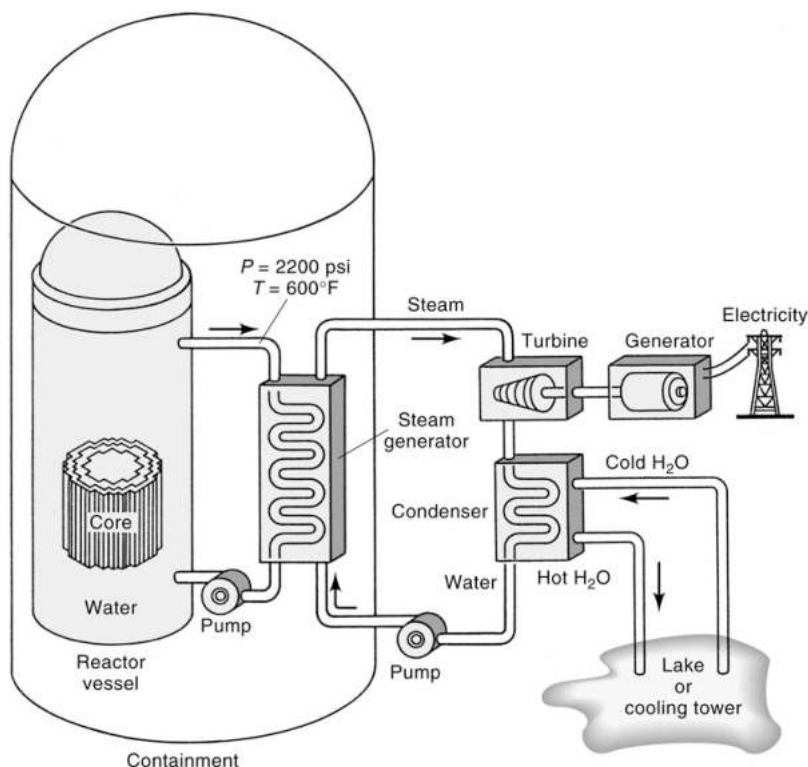

Figure 16.6: Schematic of a pressurized water reactor. From Hinrichs, Fig 14.11.
- A **coolant** is necessary to remove heat from the reactor core. First, because we need to remove the heat to keep everything from melting. Second, because the whole point of building the reactor is to generate energy we can use, so the coolant carries this energy out, where it is used to make high-pressure steam that runs a turbine and generator as in combustion-based power plants (Figure 16.6). The coolant is most often water, but can be helium gas, or molten salts or sodium in other designs. In a **loss of coolant accident (LOCA)**, the circulation of coolant through the reactor is interrupted and its internal temperature can rise, potentially to the point of **meltdown** of the fuel assemblies in the core. This renders